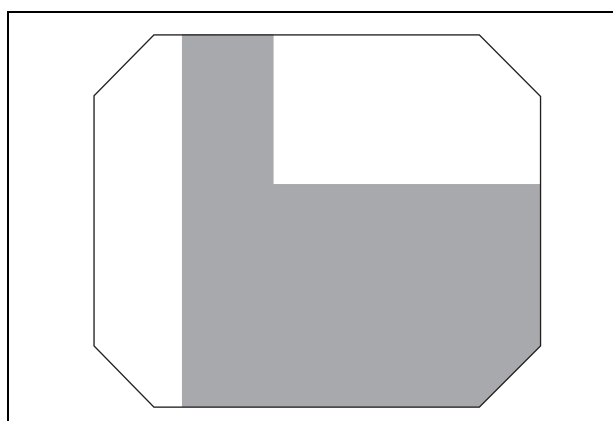
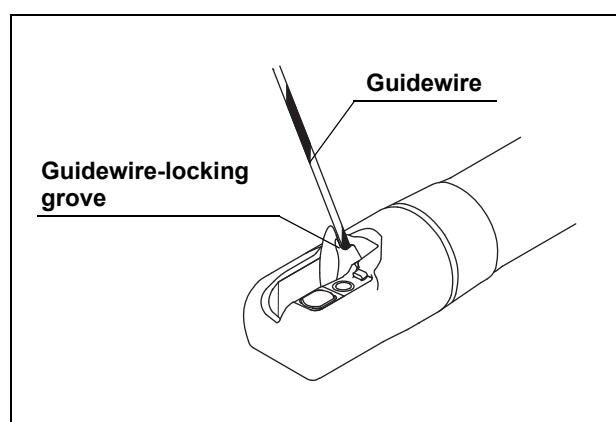
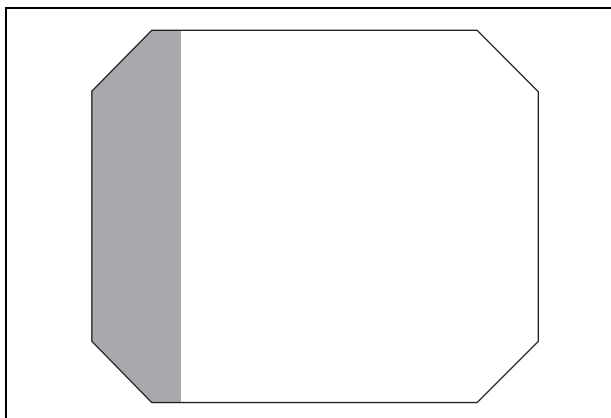
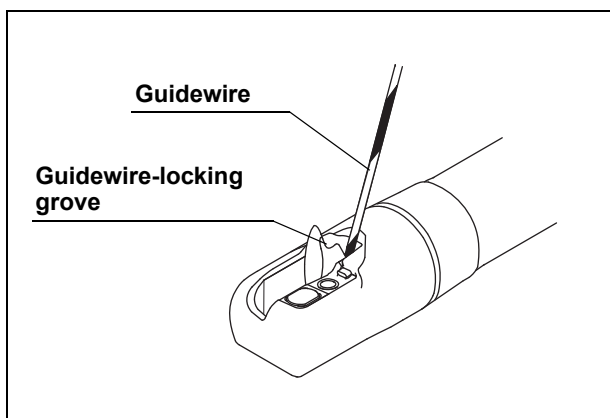

Figure 4.4
Figure 4.5
Figure 4.6
Figure 4.7
3. When only the guidewire is extended from the endoscope's distal end, slowly move the elevator control lever in the "◀U" direction until the operator feels heavy with the papilla observed in the gray-colored area of the endoscopic image shown in the Figure 4.4 (for center lock, see Figure 4.5). Alternatively, when only the guidewire is extended from the endoscope's distal end, slowly move the elevator control lever in the "◀U" direction until the operator feels heavy with the papilla observed in the left side area of the endoscopic image shown in the Figure 4.6 (for side lock, see Figure 4.7).
1. When only the guidewire is extended from the endoscope's distal end, slowly move the elevator control lever in the “◀U” direction until the operator feels heavy with the papilla observed in the gray-colored area of the endoscopic image shown in the Figure 4.4 on page 58 (for center lock, see Figure 4.5 on page 58). Alternatively, when only the guidewire is extended from the endoscope's distal end, slowly move the elevator control lever in the “◀U” direction until the operator feels heavy with the papilla observed in the left side area of the endoscopic image shown in the Figure 4.6 on page 59 (for side lock, see Figure 4.7 on page 59).